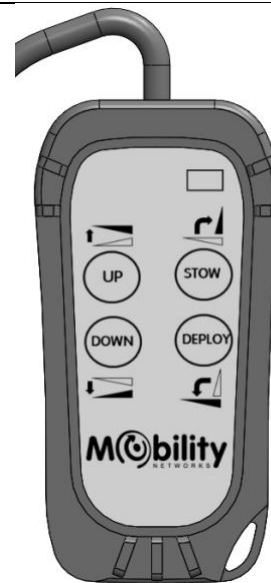
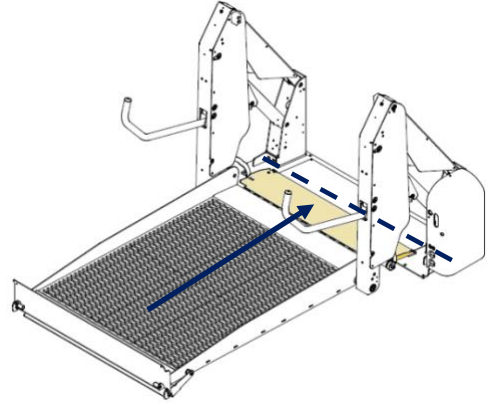

Fig. 9.2.2 Control Pendant
Fig 9.2.4 Platform at vehicle floor level
- Push and hold DEPLOY (Figure 9.2.2) button until platform stops at the horizontal loading position on the floor of the vehicle (Figure 9.2.4).
- Push and hold DOWN (Figure 9.2.2) button until platform stops at the horizontal loading position on the ground.
- Push and hold UP (Figure 9.2.2) button until platform stops at the horizontal loading position on the floor of the vehicle.
- Push and hold STOW (Fig 9.2.2) button until platform stops at the vertical loading position on the floor of the vehicle. Keep pressing until the power is interrupted.